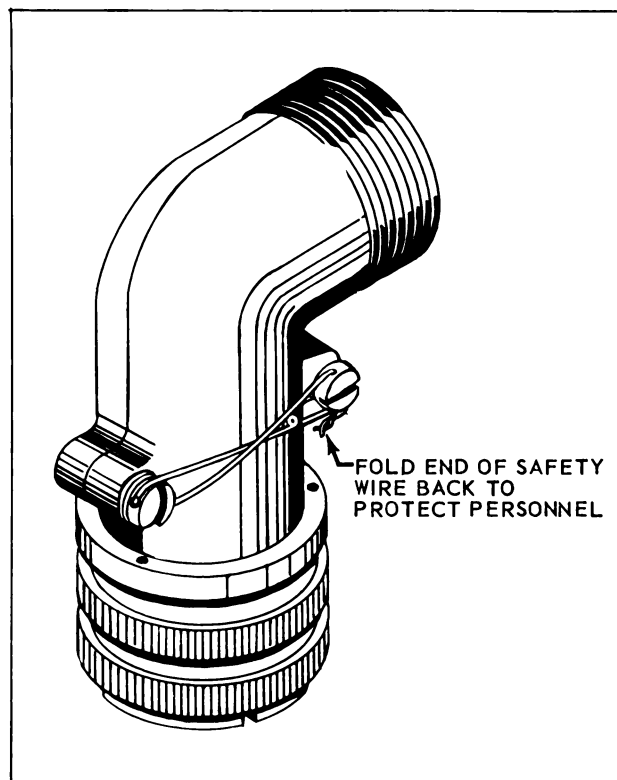

Figure 3-44. Safety Wiring Class B Connector
n. Safety wire the split back shell holding screws, if required by engineering, by passing the wire through the screw heads (see Figure 3-44), crossing it and completing with a twist.